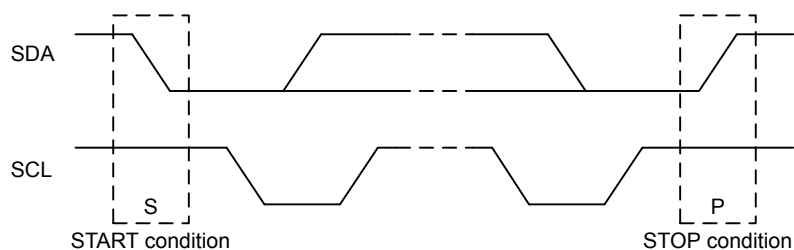

Figure 17.4. I²C START and STOP Conditions
START and STOP conditions are used to initiate and stop transactions on the I²C-bus. All transactions on the bus begin with a START condition (S) and end with a STOP condition (P). As shown in Figure 17.4 I²C START and STOP Conditions on page 481, a START condition is generated by pulling the SDA line low while SCL is high, and a STOP condition is generated by pulling the SDA line high while SCL is high.